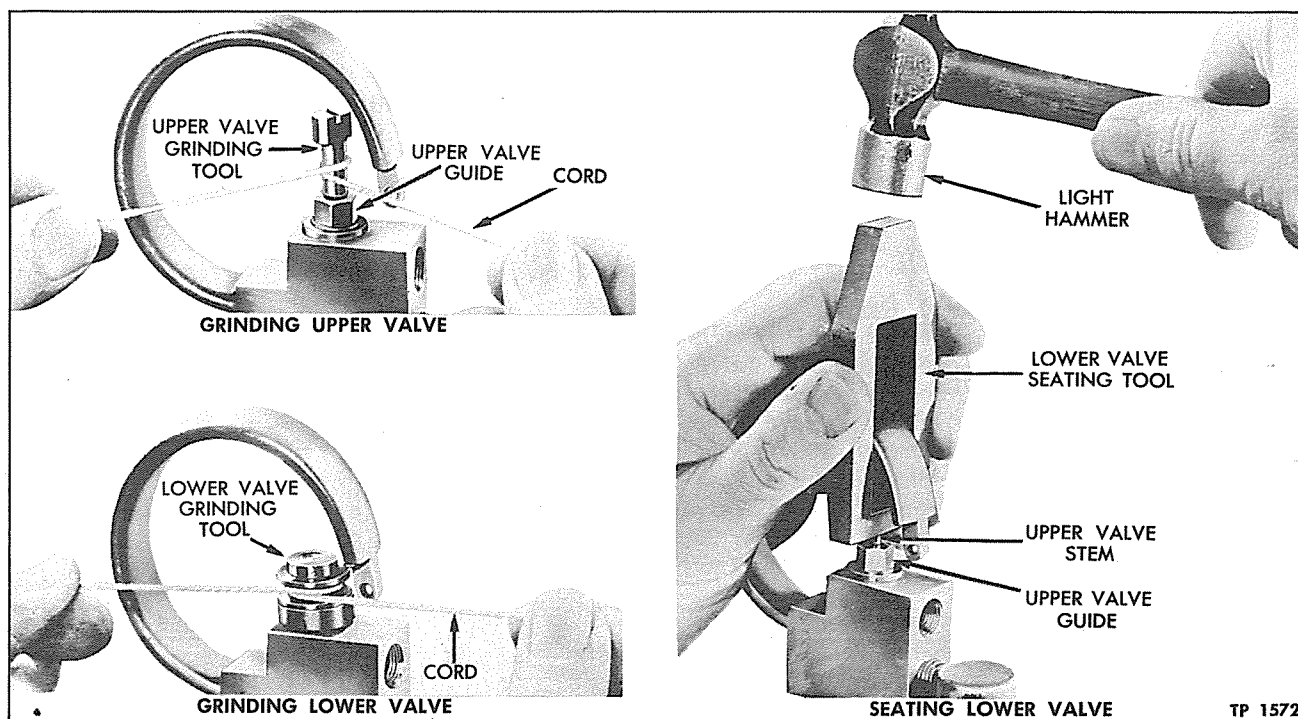

Figure 11—Grinding and Seating Governor Valves
1. If the upper valve and seat are not too badly worn, they may be repaired by carefully grinding the valve to its seat using valve grinding tool (BWE-211398) and grade 1000 grinding compound. To grind valve, temporarily install upper valve in upper valve guide and screw guide into body. Valve must be turned back and forth during the grinding operation using a piece of cord in manner illustrated in figure 11. The cord should be pulled in such a manner as to keep the upper valve contacting the valve seat on the valve guide during the grinding operation. Clean valve and seat thoroughly with cleaning fluid after grinding.
To grind valve, insert valve in body, then thread grinding tool into body. Turn valve back and forth using cord in manner illustrated in figure 11. A slight downward pull must be exerted on cord during grinding operation.